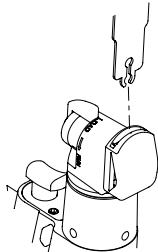

Figure 1 To Install Blade Rotate the Lever
3. Hold the handpiece in a vertical orientation with the sagittal head and blade entry slot facing up. (see figure 1).